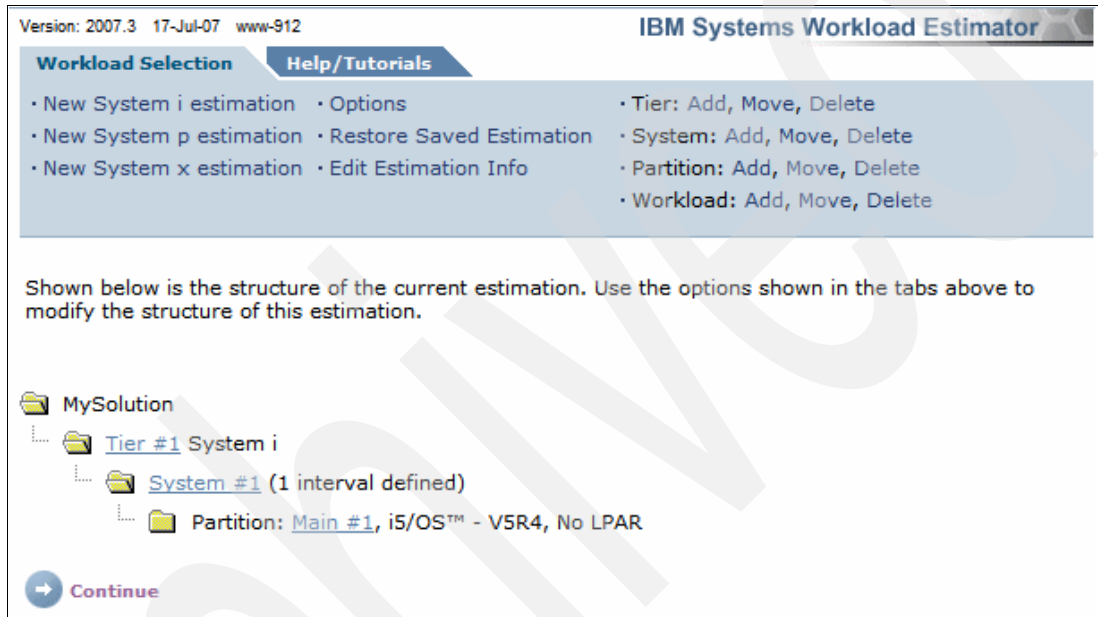

Figure 4-89 WLE initial panel
4. A panel displays as shown in Figure 4-89. To size an existing workload, click **Workload: Add** in the blue tab at the top of the panel.